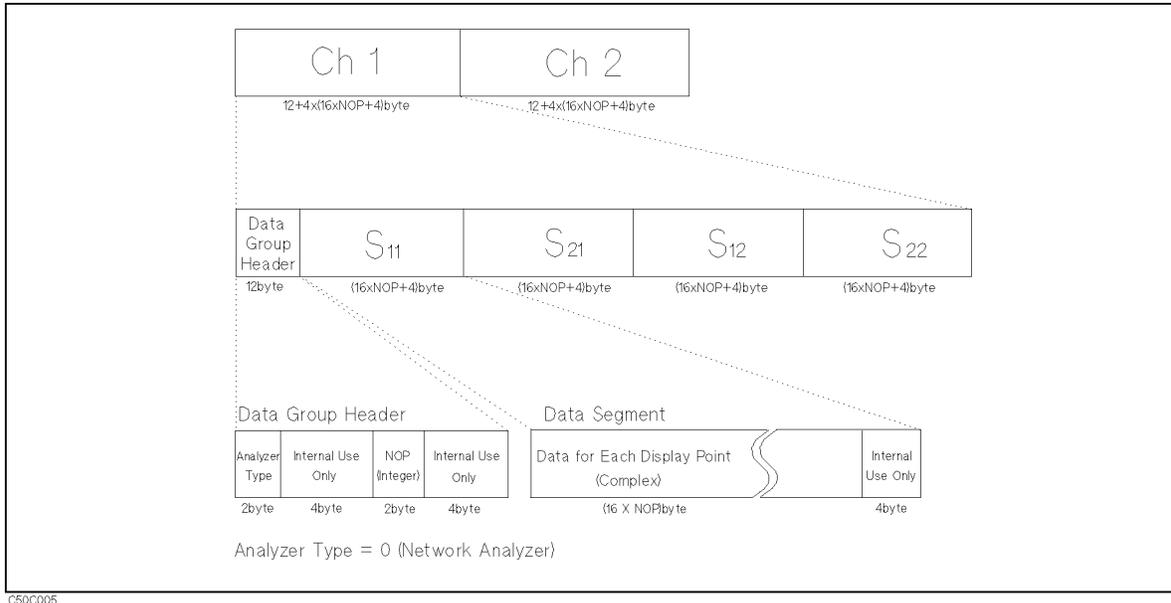

Figure A-42. RAW Data Group Structure for the Network Analyzer
- *RAW DATA* of the network analyzer consists of a header and four data segments per channel as shown in Figure A-42. They will follow the file header in this order: